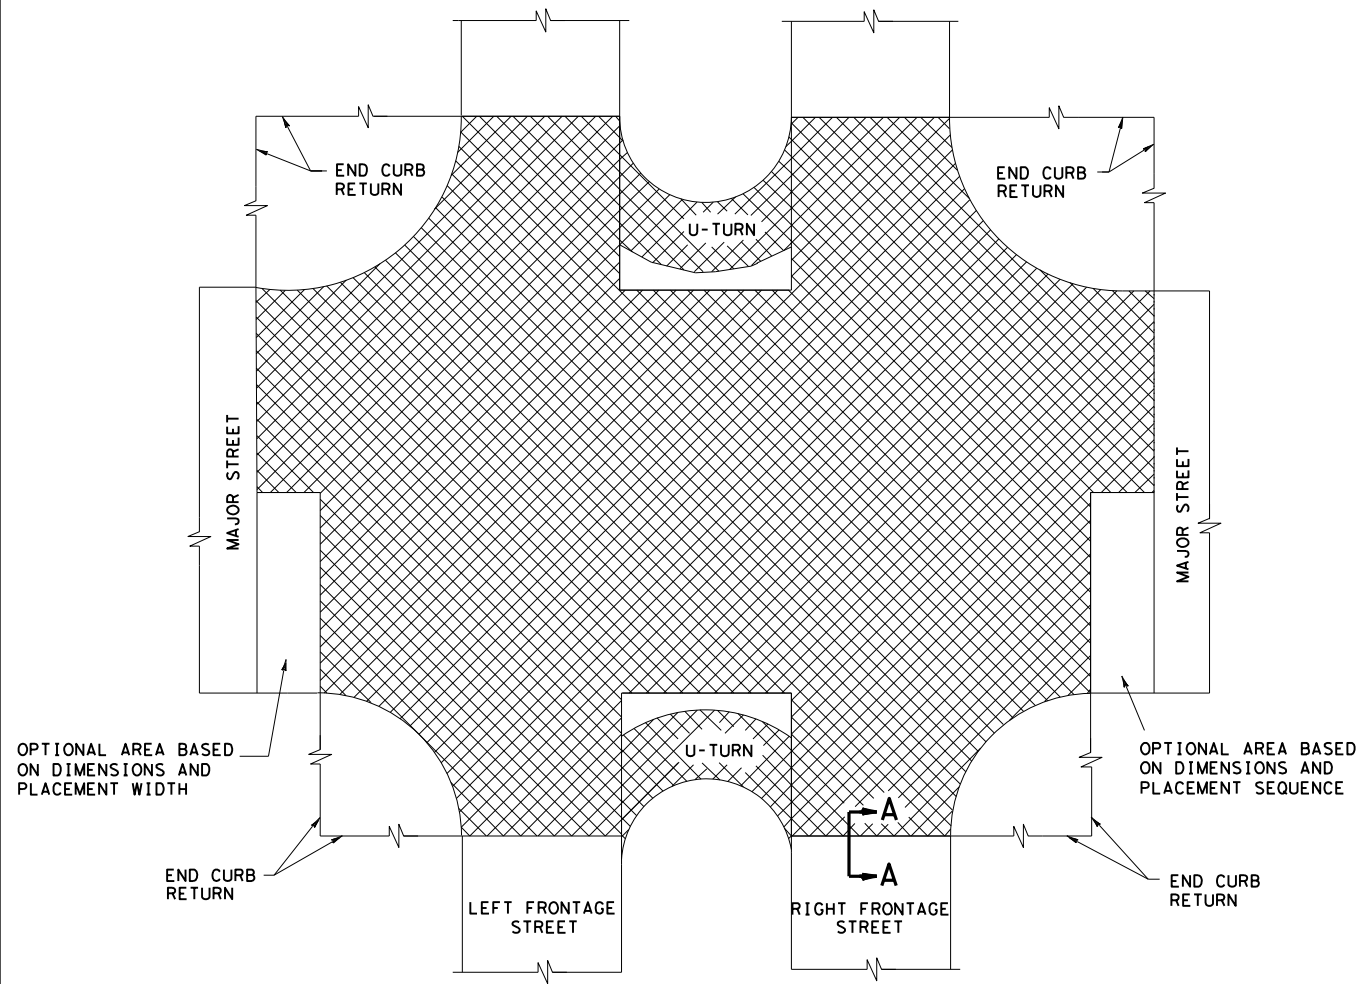

FIGURE 2
3. THE REQUIRED FAST TRACK PAVING AREAS WILL BE SHOWN ON THE PLANS. THE CONTRACTOR HAS THE OPTION TO UTILIZE FAST TRACK CONCRETE PAVING AT U-TURNS, AT INTERSECTIONS, AT MINOR STREETS, AND AT DRIVEWAYS WITH FRONTAGE ROAD LEAVE-OUT AREAS THAT ARE NOT SHOWN ON THE PLANS, WITH PRIOR WRITTEN APPROVAL FROM THE ENGINEER. TYPICAL PAVING PLANS FOR THE INTERSECTION OF A MAJOR STREET WITH THE FRONTAGE ROAD ARE SHOWN AS FIGURE 2, AND FOR THE INTERSECTION OF A MINOR STREET OR DRIVEWAY WITH THE FRONTAGE ROAD AS FIGURE 3. FAST TRACK PAVE THE FRONTAGE ROAD FOR THE FULL FRONTAGE ROAD WIDTH AND PLACE IN STAGES AS REQUIRED.